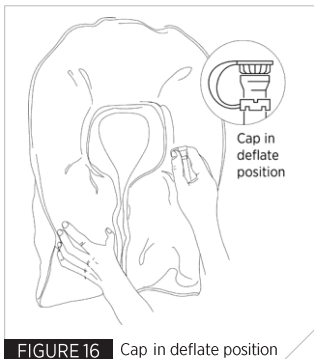
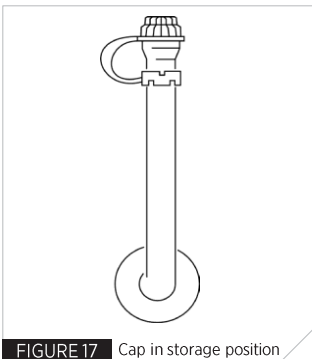

FIGURE 16 Cap in deflate position
FIGURE 17 Cap in storage position
4. Oral inflation cap is in the stowed position (Fig. 17).
To deflate the PFD, reverse the oral inflation tube cap and insert it into the valve or depress the valve with your fingertip. The cap will not lock in the deflate position, so it is necessary to hold it in place (Fig. 16).
Gently squeeze the PFD until all air or gas has been expelled. Put the inflation tube cap back in its stowed position on the oral inflation tube (Fig. 17). Be sure to remove all residual air.
If your PFD has been used and/or the inflator mechanism replaced, always inflate through the oral tube and check that it stays inflated at least overnight. With the inverted cap in the top of the oral tube, gently squeeze the PFD until all air or gas has been expelled, (Fig 16). Do not wring or twist the PFD. Put the oral tube cap back in its stowed position on the oral tube (Fig 17). Let the PFD dry before packing.